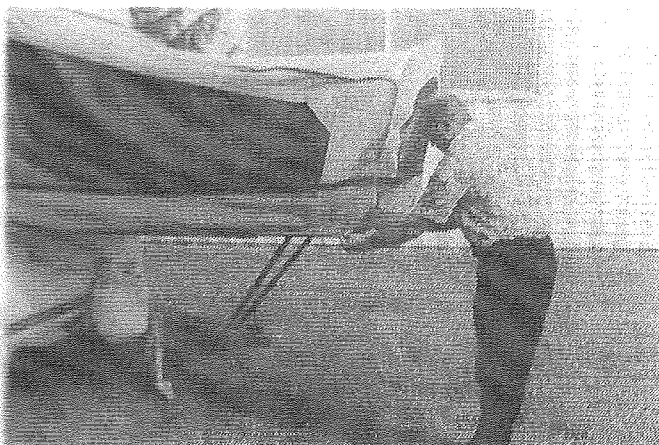

FIGURE 17
2. Pull the tent at the bottom over the bed edge and attach the exposed stretch cords to the nearest hooks on the underside of the bed. See Figures 17 and 18. Repeat for other bed end. Be certain to slide the stiffened tent fabric sections under the bed corners between the bed bottom and body rail top. These stiffened corners will prevent the entrance of insects drawn by the folding trailer interior lighting.